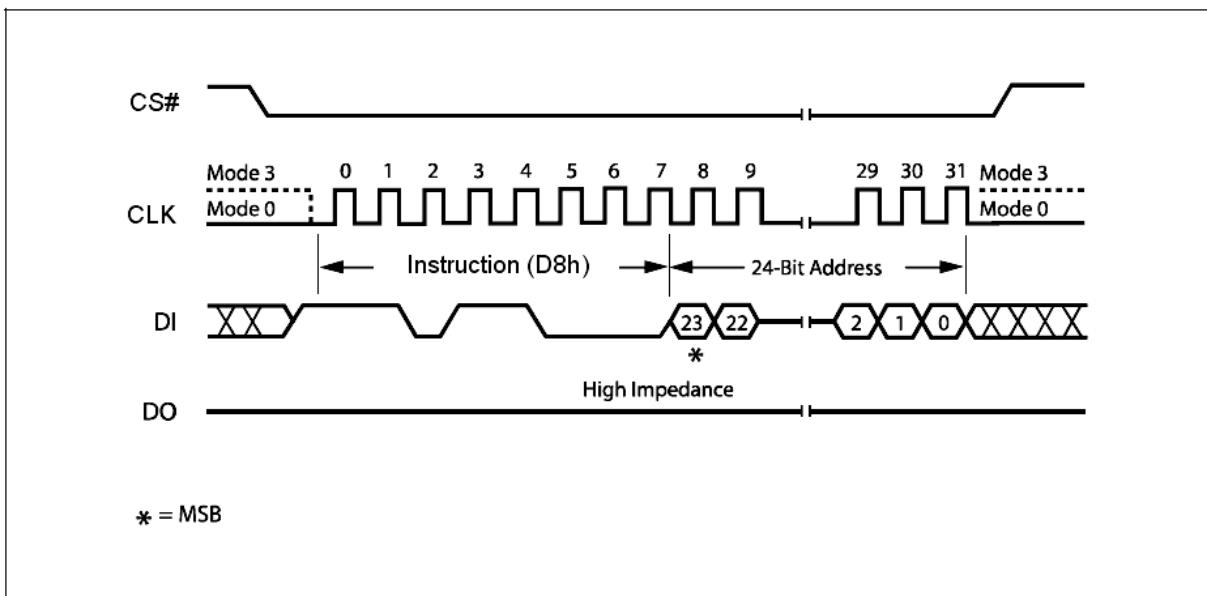

Figure 15. 64KB Block Erase Instruction Sequence Diagram
The instruction sequence is shown in Figure 15. Chip Select (CS#) must be driven High after the eighth bit of the last address byte has been latched in, otherwise the Block Erase (BE) instruction is not executed. As soon as Chip Select (CS#) is driven High, the self-timed Block Erase cycle (whose duration is  $t_{BE}$ ) is initiated. While the Block Erase cycle is in progress, the Status Register may be read to check the value of the Write In Progress (WIP) bit. The Write In Progress (WIP) bit is 1 during the self-timed Block Erase cycle, and is 0 when it is completed. At some unspecified time before the cycle is completed, the Write Enable Latch (WEL) bit is reset.